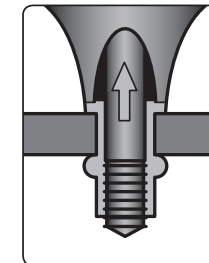

Fig. 6
- Firmly hold the rivet drill adapter in your hand, maintain a stable stance and the clockwise rotation of the chuck head will result in the connection of two parts (fig. 6).